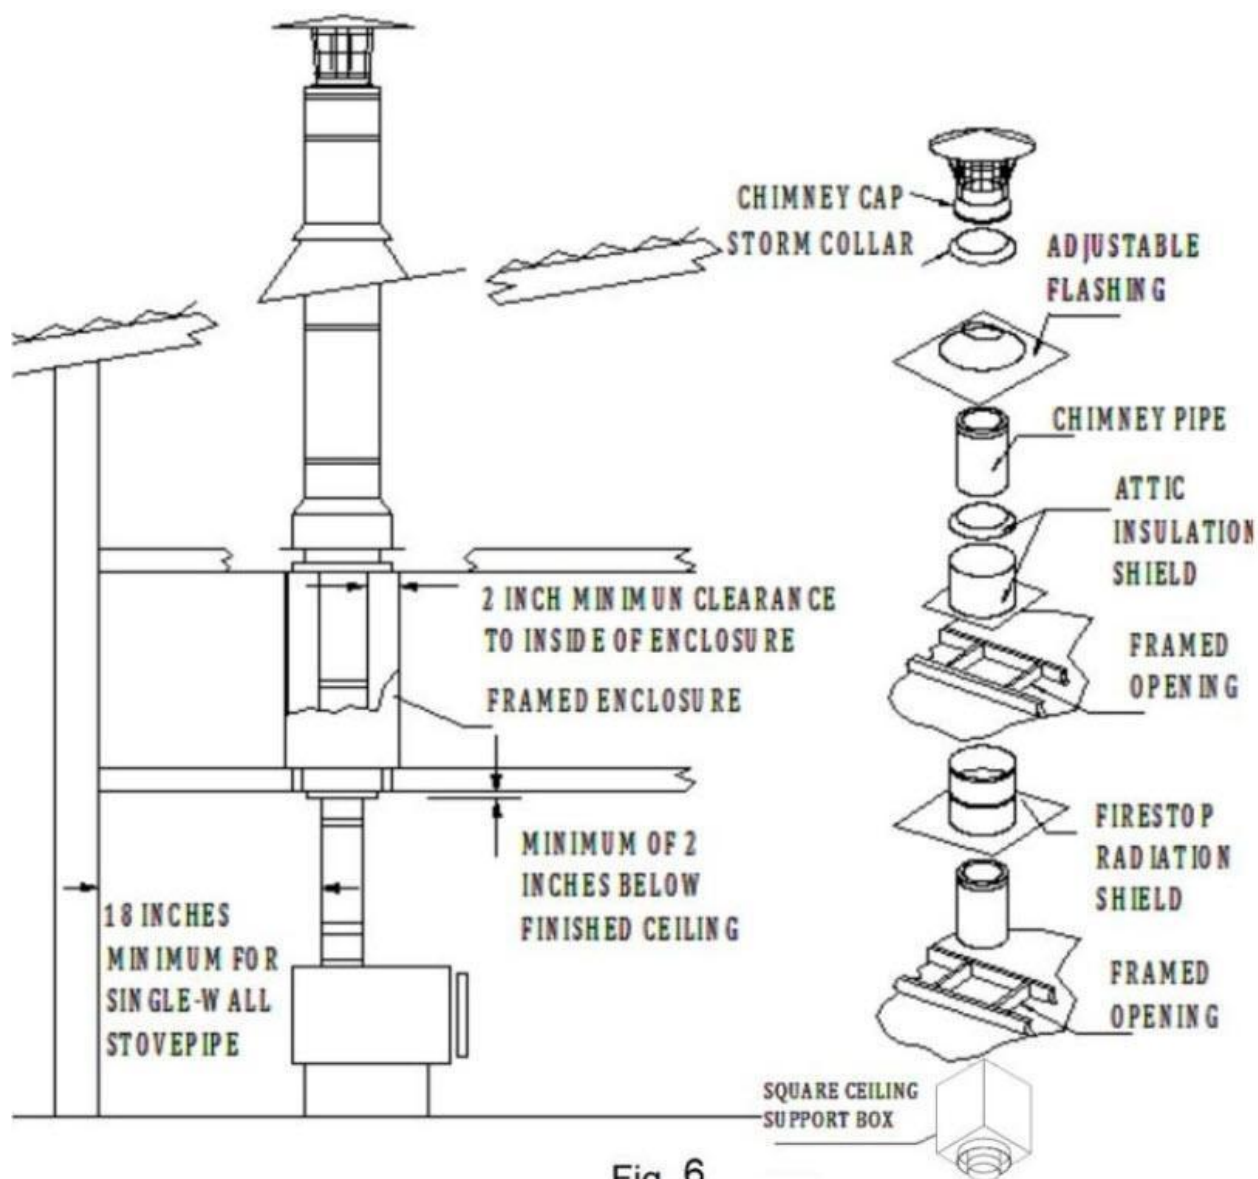
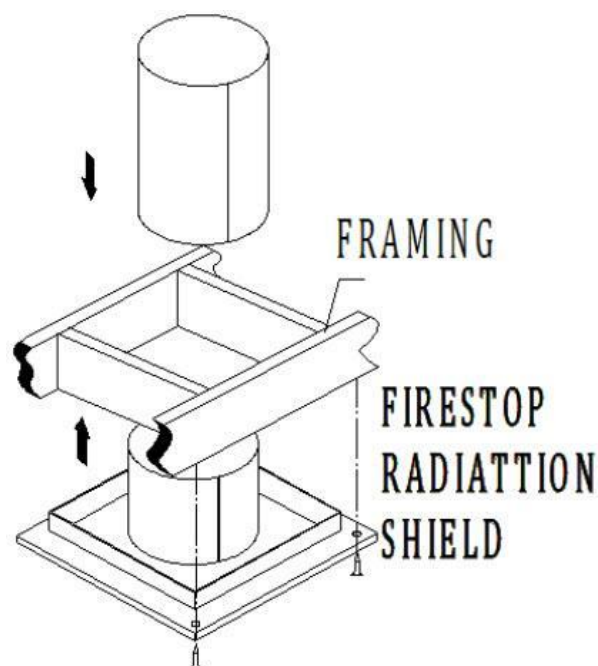

Fig. 6
Fig. 7
4. **Multi-Story Installation - Frame Openings:** Frame openings in each ceiling or floor above the Support Box (Fig 6). These openings are to hold the Firestop Radiation Shields and Attic Insulation Shields. Locate each opening by dropping a plumb bob to the four corners of the opening below. Maintain the minimum clearances and dimensions as specified in **Table 1**. If Elbows must be used to avoid an obstruction, refer to the Offset Elbow Installation section.
6. **Install Radiation Shield:** A Radiation Shield is required in multistory installations at each floor penetration above that where the Support Box is located. Example: in a multistory home where the appliance is on the ground floor (Support Box is in the 1st floor ceiling), you would need a Radiation Shield at the 2nd floor ceiling, and at the 3rd floor ceiling, etc., including where the chimney penetrates into the attic. Figure 6 shows a typical 2-story installation with an attic. Note: a Radiation Shield is **NOT** installed where the chimney penetrates through the roof. The Radiation Shield is installed on the underside of the ceiling/floor framing, with the cylindrical "tube" portion of the shield pointing upward (Fig 7). Use a minimum of either (1) 8 penny nail or (1) #8, 1-½" wood screws per corner. Refer to **Table 1** for framing requirements.
- d. Slip the Attic Insulation Shield over the chimney pipe until the base sits squarely on the framed opening (Fig 6 & 9).